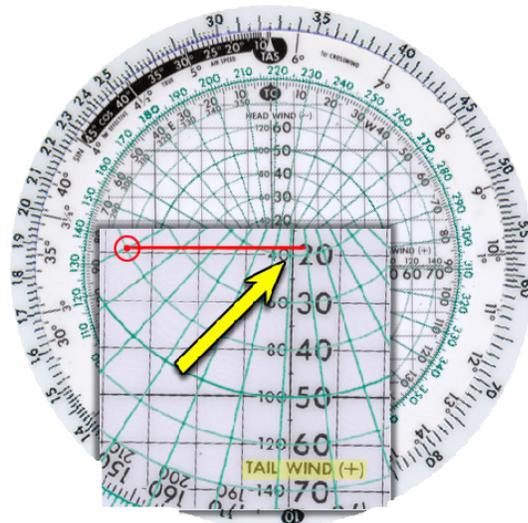

Figure 4.5-16 Preflight Wind Calculation 5
- Determine the HW/TW component in the same manner as step 5 (draw a horizontal line as shown in Figure 4.5-16) and add or subtract this value (19 kts TW) to the TAS as appropriate to calculate the GS of 344.